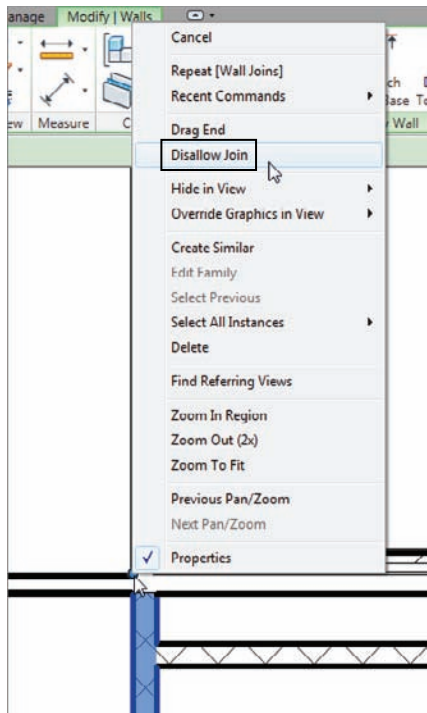

FIGURE 2.57 By right-clicking the wall's end grip, you can tell Revit to disallow that wall's join function.
1. Select the long, horizontal 6 1/8" (135mm) wall that comes into the corner, as shown in Figure 2.57. A blue grip appears to the right of the intersection. This represents where the wall's extents are.
4. Select Disallow Join (see Figure 2.57).